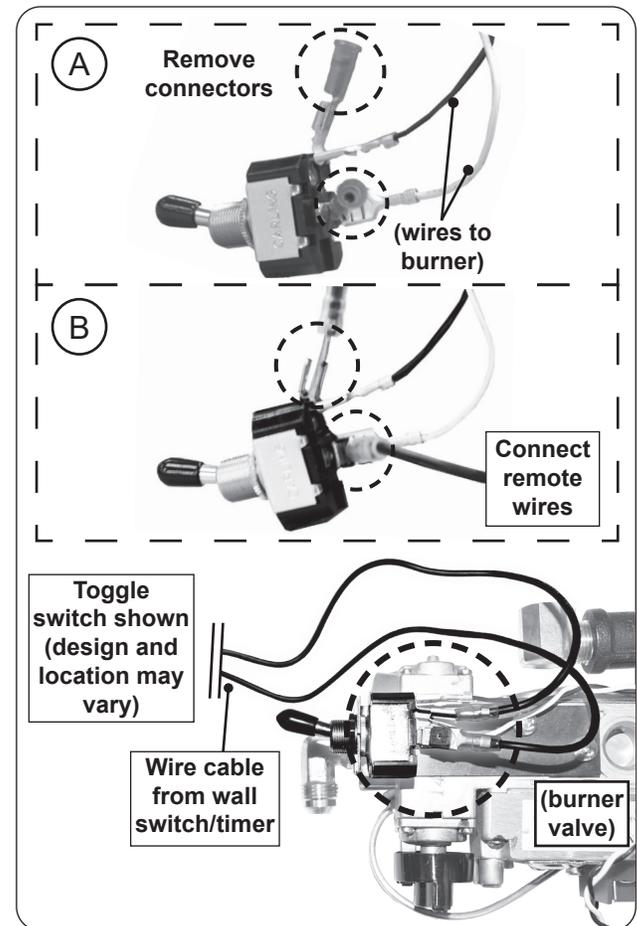

Fig. 2-2 Connect to 10/11/12 valve
2. Locate the toggle switch (or on/off switch) on the valve. Remove and discard the red connectors on the switch (see Fig. 2-2, A).
3. Connect the wire cable connectors to the now exposed terminals. Ensure all connections are fully attached. See Fig. 2-2, B.